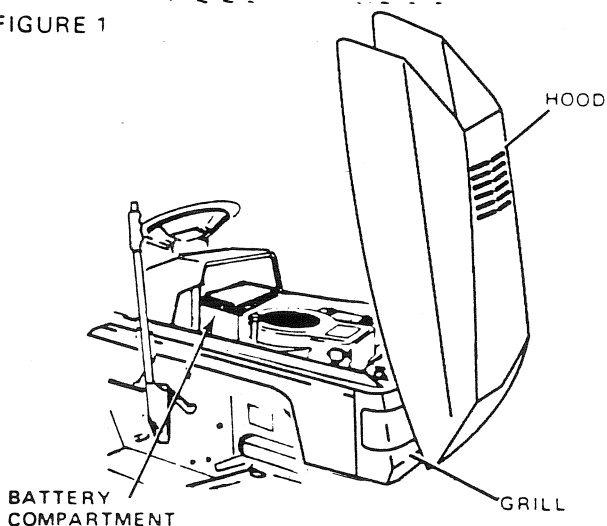

FIGURE 2
- a. Lift hood from rear sides (Fig. 2).